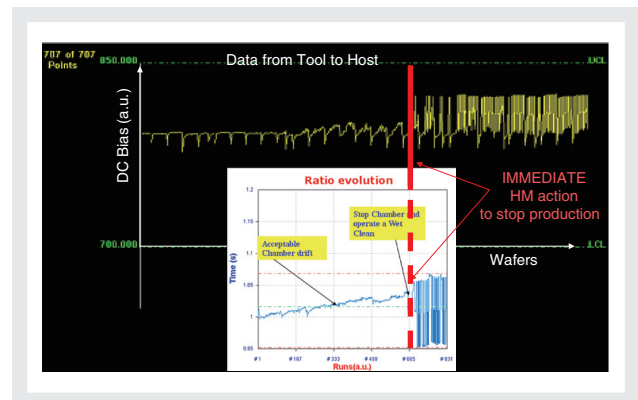

Figure 7 Tool drift and stop at the batch
On contact etch (CA), Health Monitoring (HM) target is to fit tool evolution (polymerization) between two wet cleans and monitor the tool drifts (Figure 7).